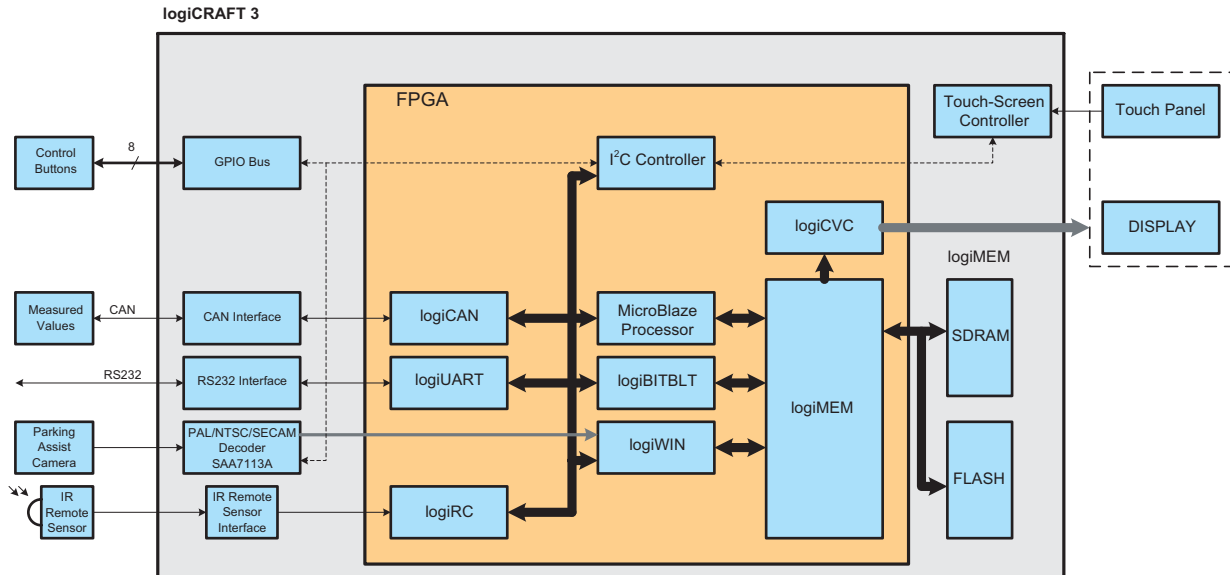

Figure 5 – Platform/FPGA structure for instrument cluster application
- Industrial and medical instrumentation (Figure 5)
Figure 5 shows the platform/FPGA structure for an instrument cluster, where the powerful yet compact logiCVC multilayer display controller will help you create a state-of-the-art instrument panel. With a 60-fps refresh rate, you will be able to animate on-screen gauges and give them the motion smoothness of their analog counterparts.